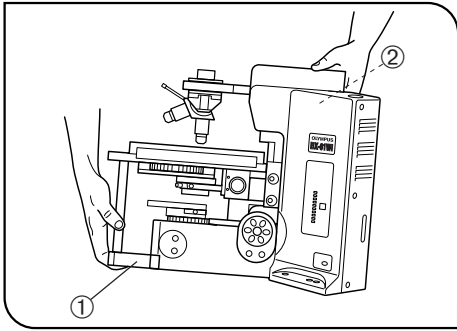

Fig. 1
5. When moving the microscope, disconnect the reflected light illuminator, observation tube and transmitted light lamp housing and carefully carry the microscope by the base (front edge) ① and the grasping part on the rear of the arm ② as shown in Fig. 1. (Weight: approx. 15 kg.)